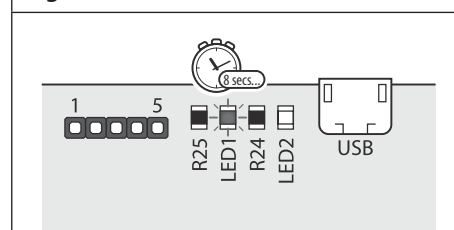

Fig. 36
3. Switch the power back **ON** to the GSM module, initially the red LED (LED1) will switch **ON** for approximately 8 seconds. The red LED (LED1) will then start to flash, as shown in **Fig.36**;